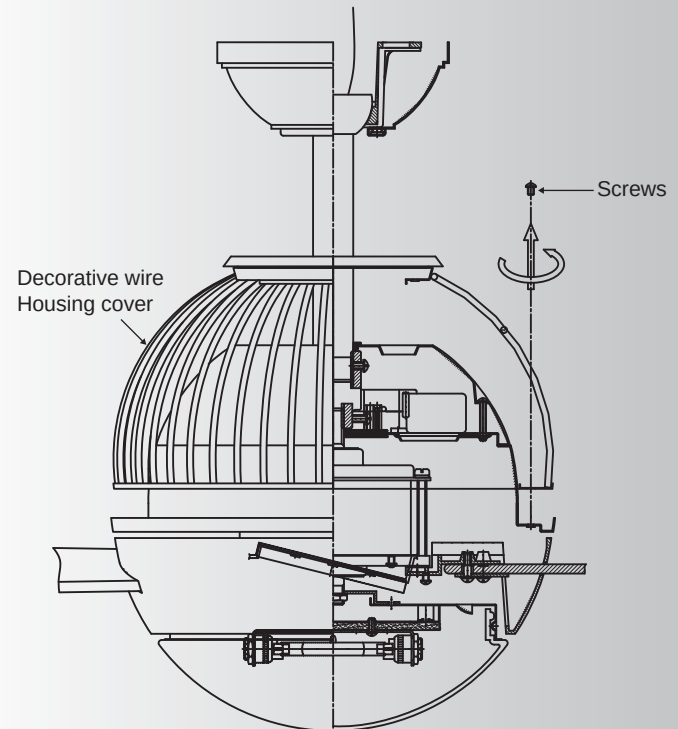

Fig. 19
Step 1. Remove the screws holding the decorative wire housing cover to the top of the motor housing. (Fig. 19)